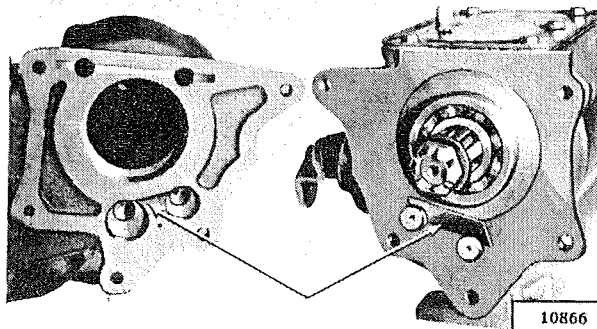

FIG. 108—SHAFT LOCK PLATE
b. Remove screws holding the case cover (12) to top of transmission. Remove the cover.
c. Remove the three screws and washers in front main drive gear bearing retainer (3) and remove the retainer and gasket.
d. Remove two hollow head screws from front end of case, which supports the oil collector (58) inside of the case.
e. It is necessary to remove the main drive gear assembly before the shift forks can be removed (with side shift transmission). This may be accomplished by either removing the countershaft to drop the countershaft gears or by removing the main drive gear bearing from the case. Should it be necessary to remove the countershaft gear set to complete a particular job, it is better to drop this gear set. Should the trouble be confined to the mainshaft gears, remove the bearing. To accomplish this, first remove snap rings (4) and (5) and use a bearing puller. If no puller is available, the bearing can usually be removed by using two screwdrivers to carefully pry into the larger snap ring groove while tapping on the end of the shaft with a rawhide mallet. If the shaft is removed, use care not to lose the fourteen mainshaft pilot rollers (9).
f. Remove the oil collector assembly (58).
g. Remove the lock plate (Fig. 108) which is assembled in slots cut in the rear ends of the countershaft and reverse idler shafts.